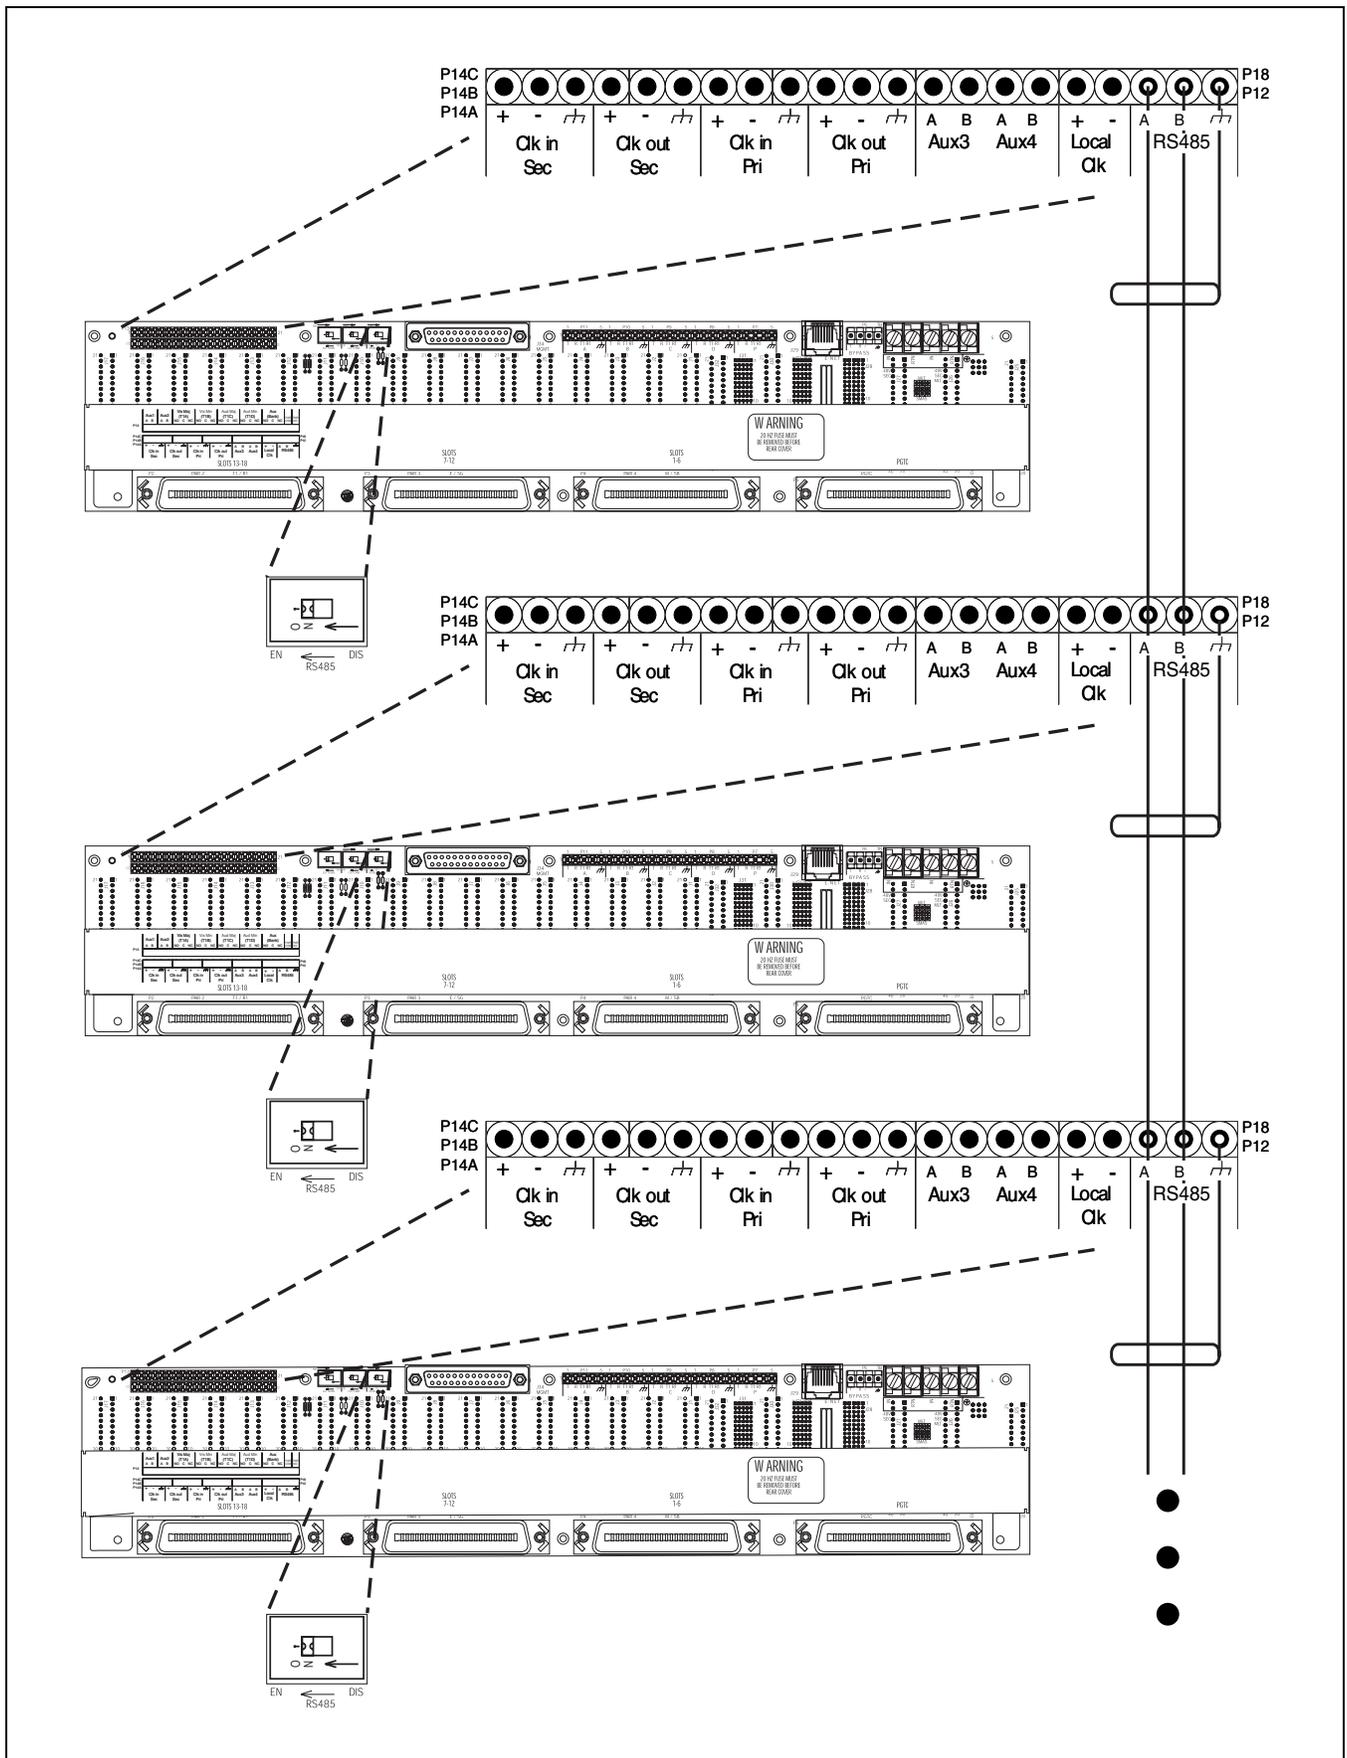

Figure 9. RS-485 Wiring
- Using the wire-wrap tool, connect the shielded, twisted pair interconnect wire to the RS-485 wire-wrap header, **P12**, on the host Total Access 1500 backplane. (See Figure 9).
- Run the interconnect wire to the backplane of the first client chassis. Connect the two conductors and ground of the interconnect wiring to the RS-485 wire-wrap header, **P12**, on the backplane of the client chassis. (See Figure 9).